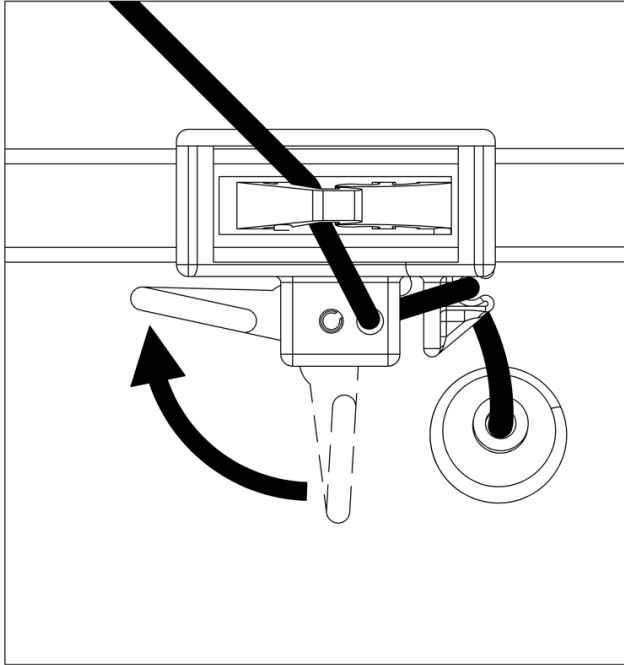

Fig 13. Locking the L.T.L. (Viewed from Above).
4. Wrap the cord as per the below images (Figs. 13 and 14)